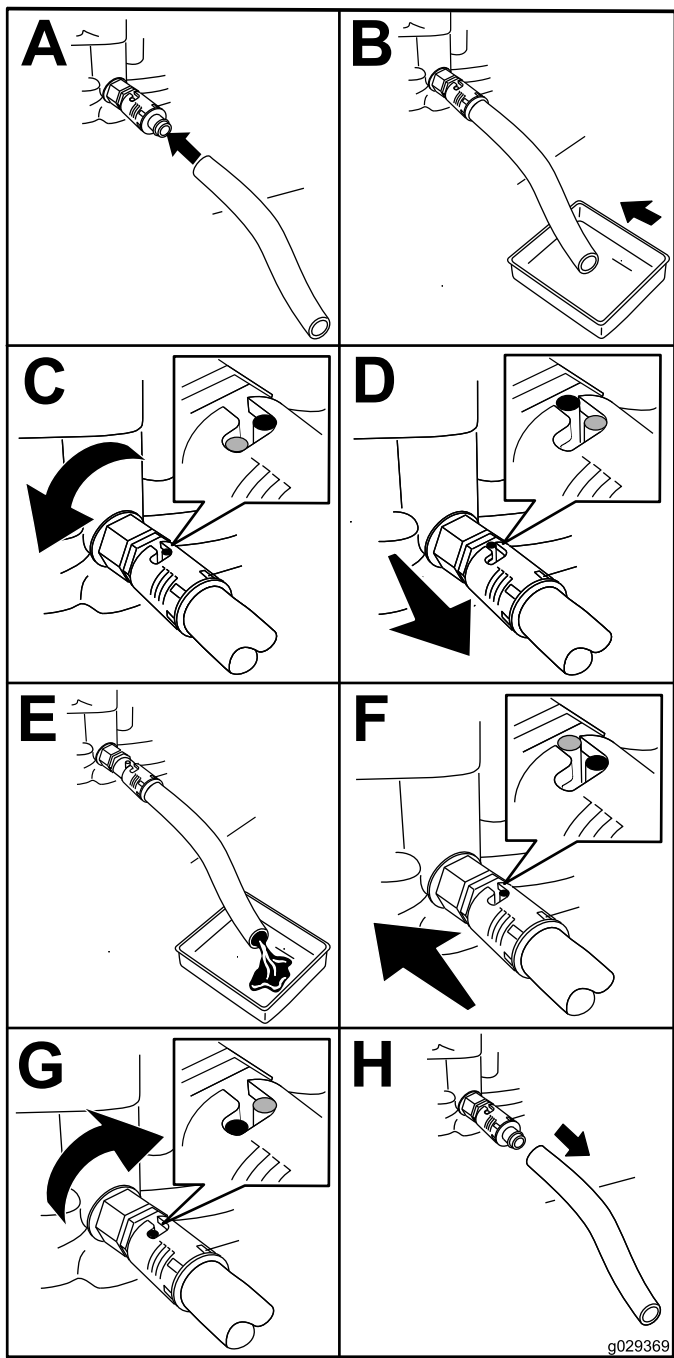

Figure 33
4. Drain the oil from the engine (Figure 33).